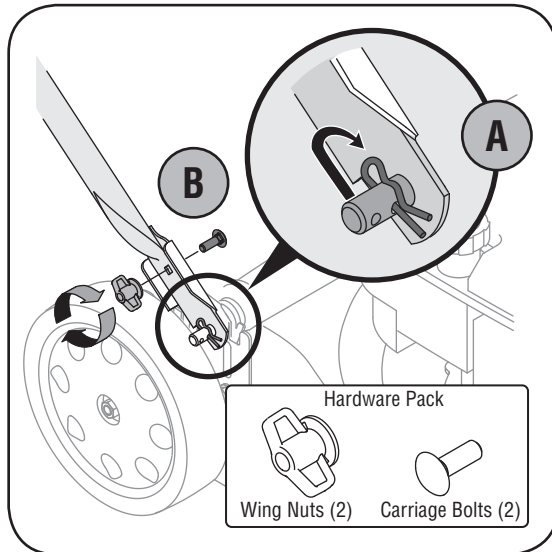

Figure 3-2: Secure handle to handle mounting brackets.
3. Follow these steps to secure the handle, Figure 3-2.